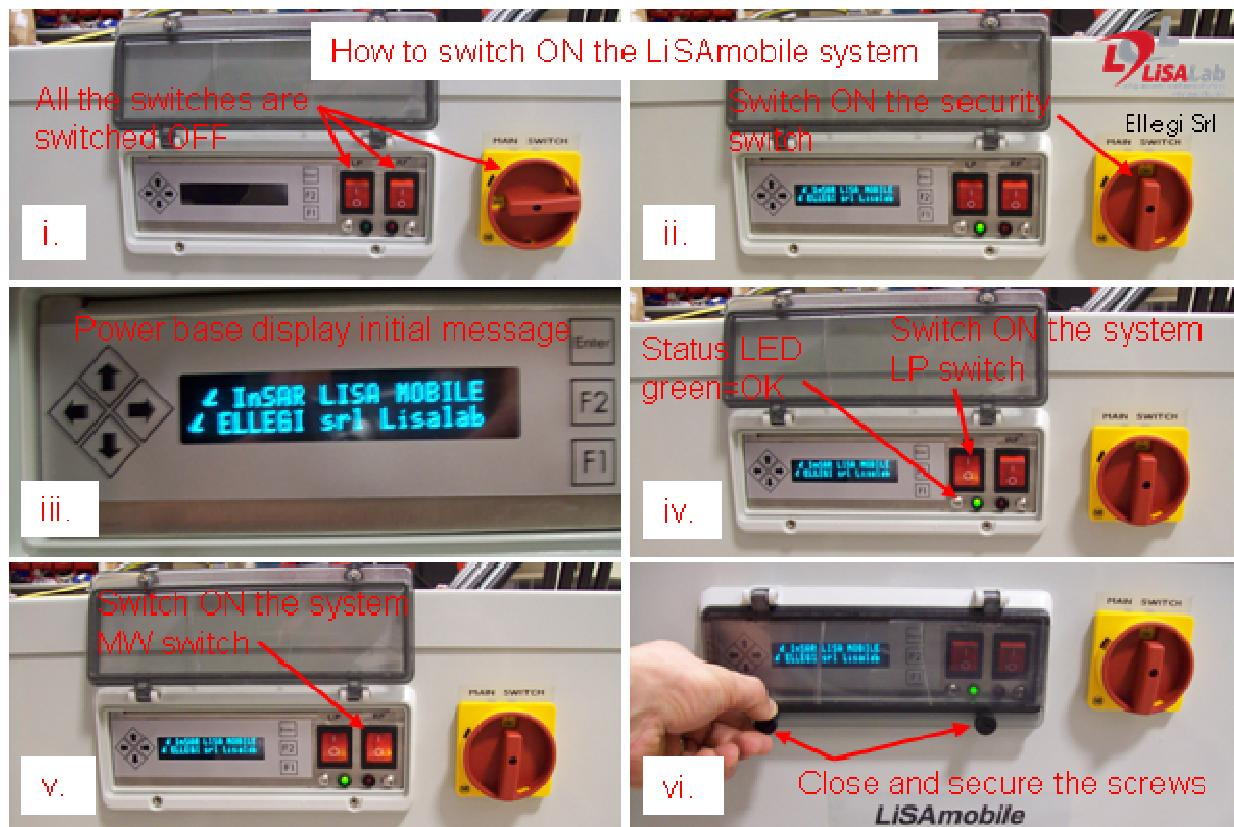

Figure 14: Steps 10 and 11 of the installation procedure.
10. Switch to the “On” position the security switch of the power base; the system will switch on and the message “*InSAR LISA MOBILE ELLEGI srl lisalab*” appears on the power base display (Figure 14).
11. Lift the protective screen of the power base display and switch on the two red switches on the “I” position; firstly the “LP” switch and then the “MW” switch (Figure 14). Then close the display protective screen and secure it with the two fixing screws.